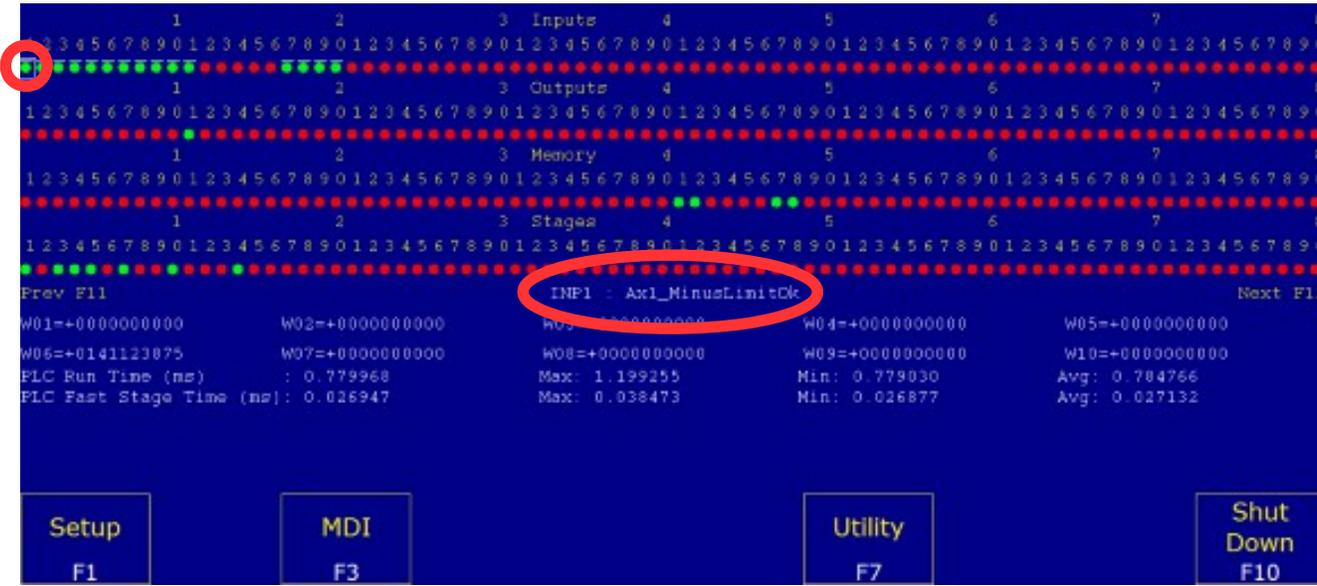

Figure 4.1.4
5. **Disable PLC faults for Limit Switches, Lube, Spindle, Estop and Axis Faults.** At the main screen press the **alt** and **i** keys to bring up the real-time I/O display as shown in Figure 4.1.4. Using the arrow keys, move the selection box to the top left of the inputs. The screen should read "INP1 Ax1_MinusLimitOk" as circled below. Press the **ctrl alt** and **i** keys simultaneously to invert this input.